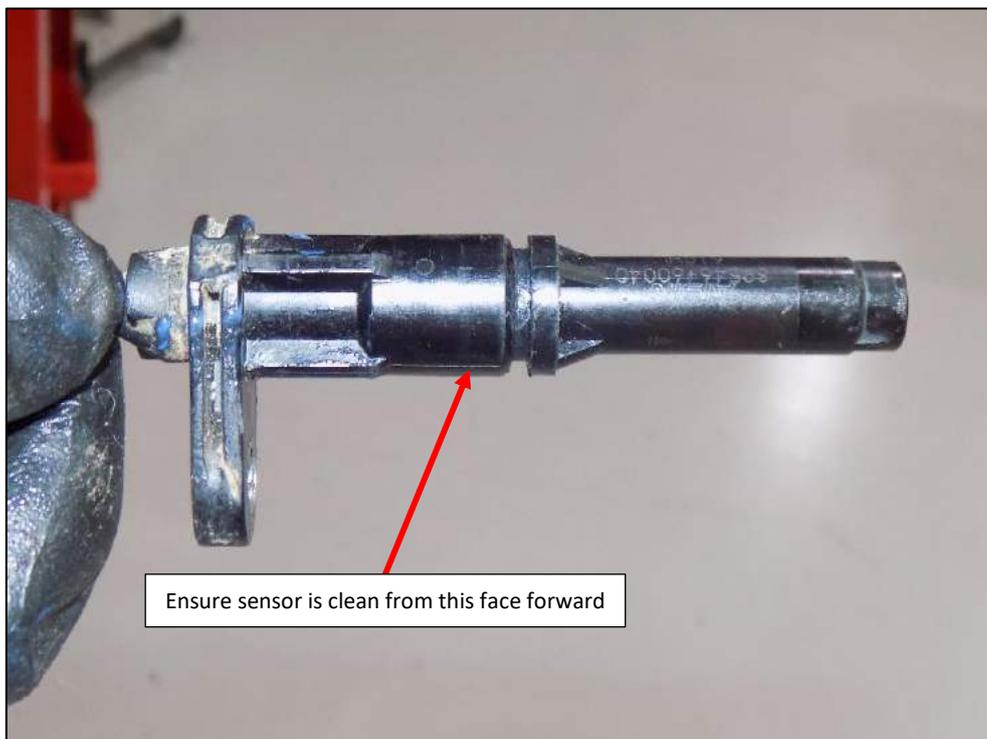

Figure 7
18. **[ABS equipped vehicles only]**. Clean the ABS sensor if required (Figure 7).